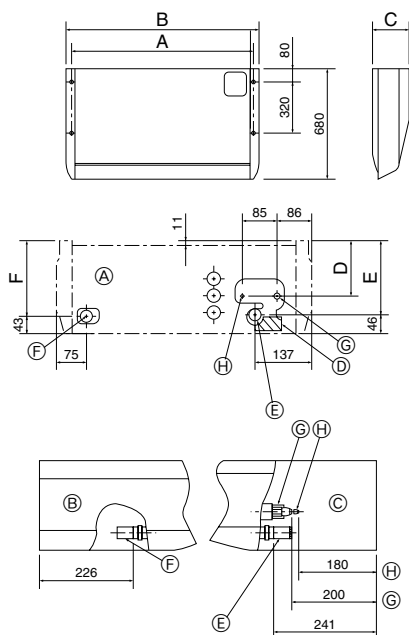

Fig. 3-2
3.2. Preparation for installation (Fig. 3-2)